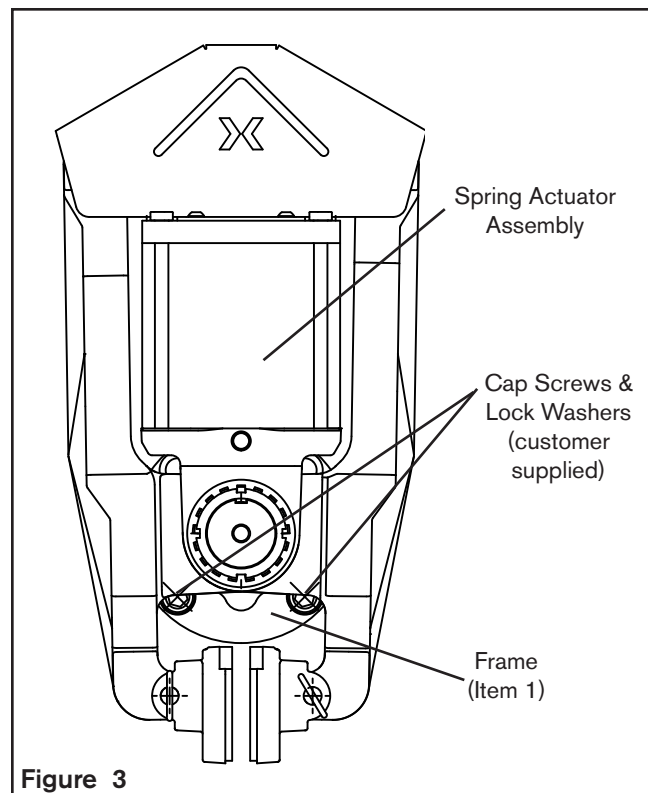

Figure 3
4. Tighten the Cap Screws (customer supplied) and the Lock Washers (Item 20) to 67.8 Nm [50 ft-lb] torque (See Figure 3).